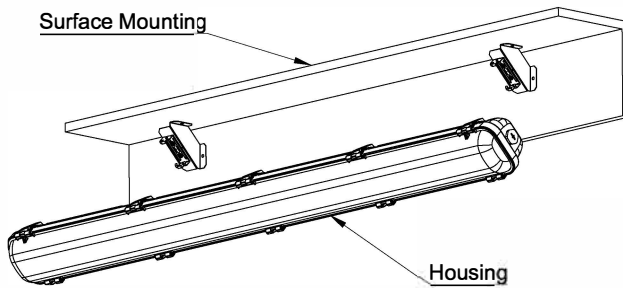

Fig 7
- Use appropriate mounting hardware to secure the Angle Bracket to mounting surface as shown in Fig. 7.